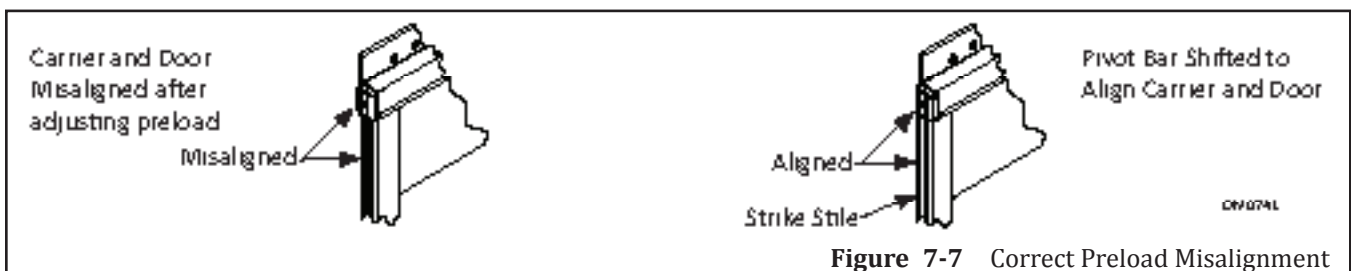

Figure 7-7 Correct Preload Misalignment
1. Loosen the Allen head fasteners in the pivot bar and slide the pivot bar in the hanger until the door and hanger are properly aligned. Please see Figure 7-7.